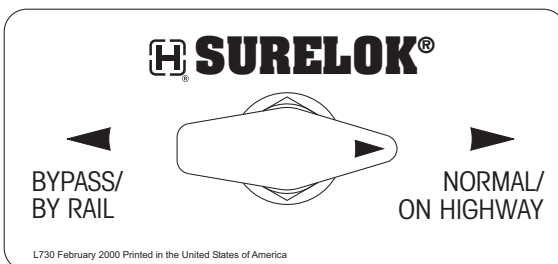

Figure 5. Returning SURELOK to normal operation
1. Turn the SURELOK bypass valve to the NORMAL / ON HIGHWAY position (figure 5). SURELOK engages and resumes automatic operation in tandem with the trailer parking brakes (SURELOK will disengage when the trailer parking brakes are released).